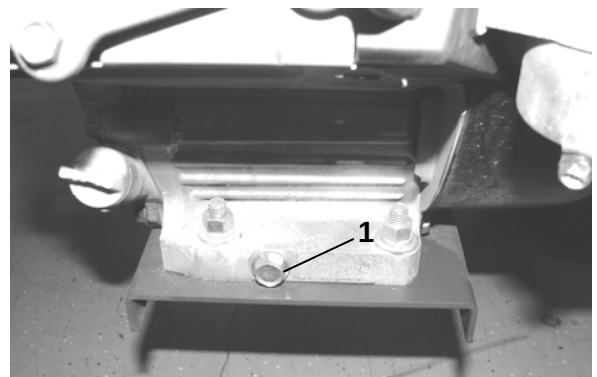

Figure 16
5. Install the drain plug and refill the crankcase with the specified oil. Refer to Checking the Engine Oil Level (Figure 16).